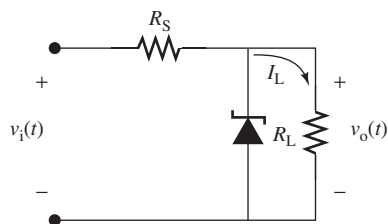

FIGURE P8.30 Circuit for Problem 8.30.
- 8.30** (B) Assume that the voltage input to the voltage regulator in Figure P8.30 is 10 V, with the Zener voltage of 4.5 V. Determine if the voltage regulator will turn on with the following combinations of R_L and R_S .